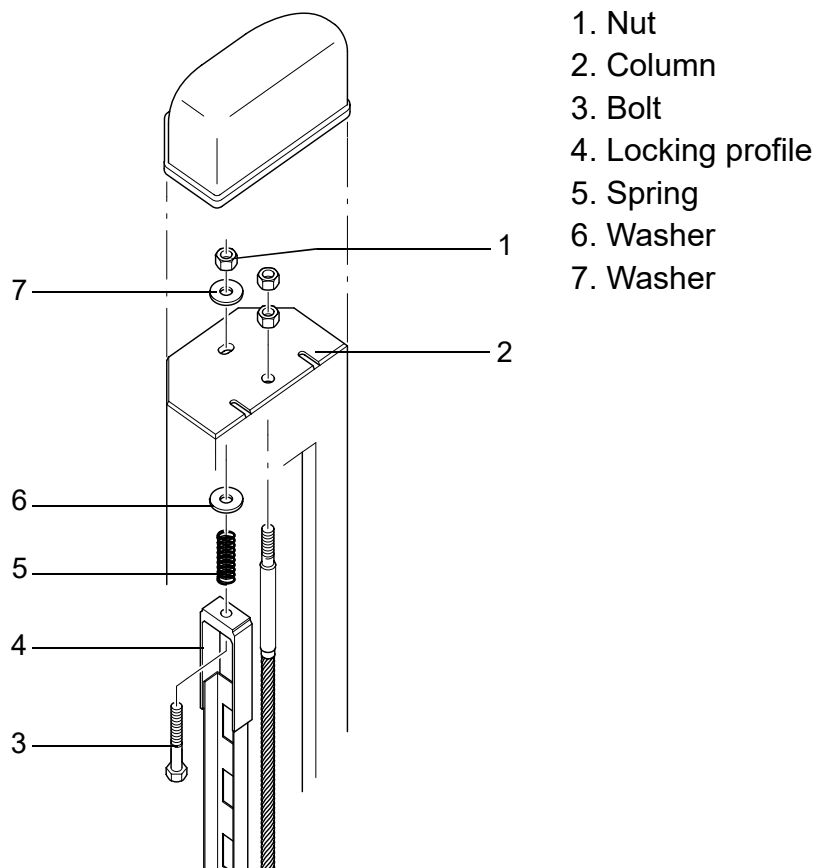

Figure 12: Securing of the locking profiles
4. To level the cross-beams (see Figure 12: Securing of the locking profiles on page 34):
- b) Use Allen key no. 14 to keep bolt (3) stationary.
- c) Level the crossbeam by turning nut (1).